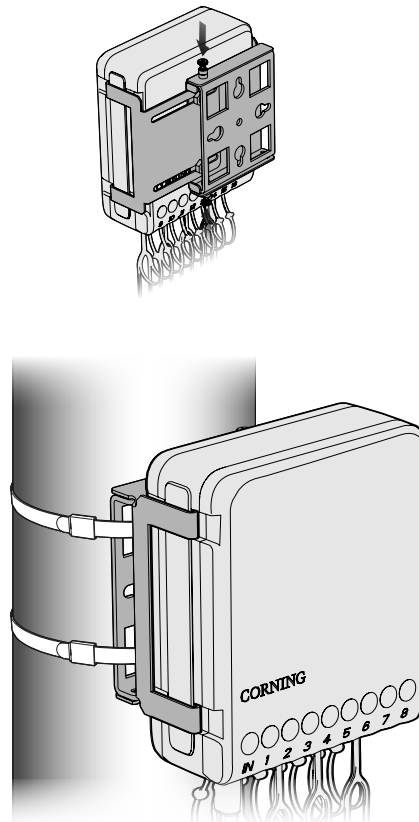

Figure 14
**Step 3:** Secure the straps to the pole using a Band-It-type tool (Figure 14).